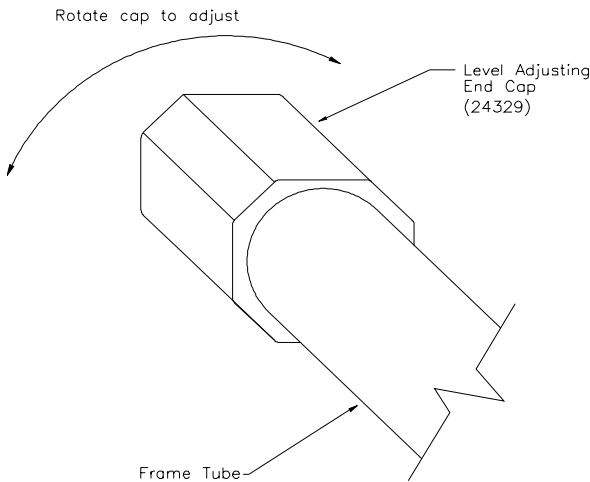

Figure 3: Level Adjusting End Caps
| Figure 3: Level Adjusting End Caps | 6 |
2. Make sure the machine is level before you use it for the first time. The four rubber end caps (see Figure 3) are designed to compensate for uneven floors. Each face of the caps is a different thickness. Twist the caps to stabilize the machine.